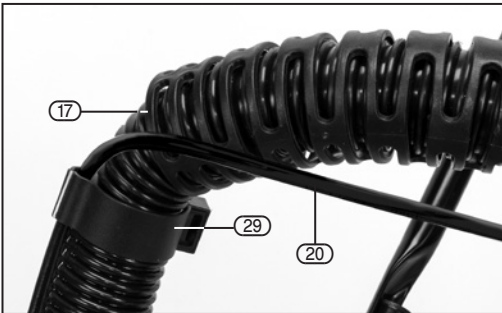

FIG. 15
9.1 ATTACH THE SHAMPOO DELIVERY HOSE- FIGS. 15- 16
- Fix the shampoo delivery hose (20) to the vacuum hose (17) using the clips (29) supplied.
- Fix the large plug end of the shampoo delivery hose (20.1) into the shampoo delivery socket (2) located on the front of the motor housing.